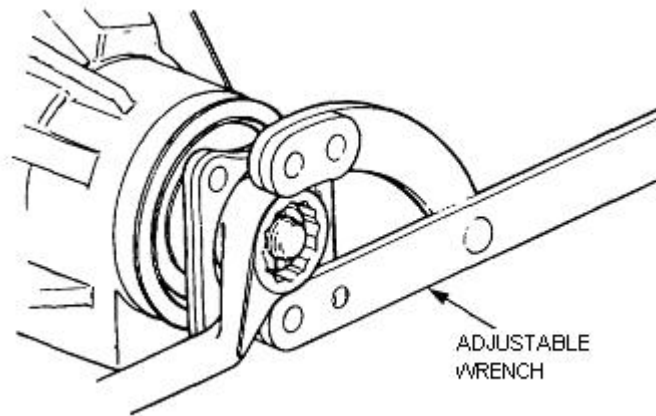

Figure 80 Securing the Differential Pinion Coupling Flange
- d. Using the adjustable wrench (Table 3, Serial 4), to prevent the coupling flange rotating; remove the pinion locknut and washer (Figure 80). Discard the locknut.
- e. Using the adjustable wrench (Table 3, Serial 4) to prevent the flange rotating, torque the locknut to 95–163 N.m (70–120 lbf.ft) (Figure 80).